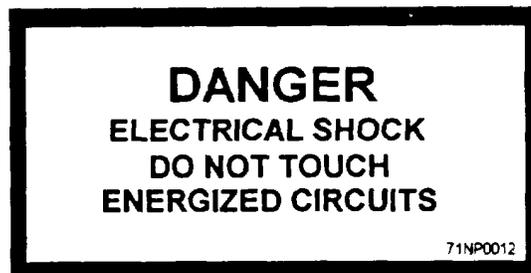

Figure 1-6.—Danger sign to be posted near electric workbench.
- The sign shown in figure 1-6 must be posted near each workbench. This sign must be reproduced locally on 0.05-inch aluminum engraved with red enamel letters.